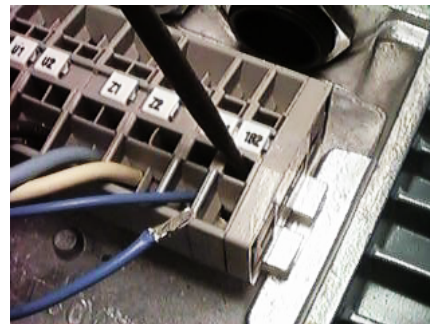
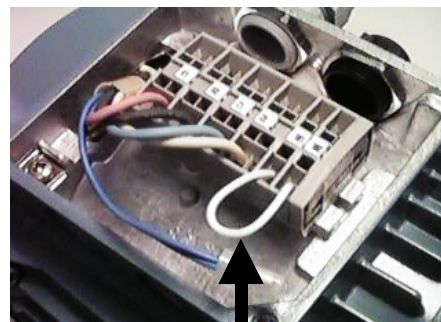

fig 1
fig 2
3. Use a small screwdriver or awl to pry open the terminal block clamps for the motor thermal protector switch wires on terminals 1B1 and 1B2 (fig 1). Remove these two (blue) wires from the terminal block. (Note that the two removed wires enter the motor itself). Twist the ends of these two wires together and cap them (fig 2).